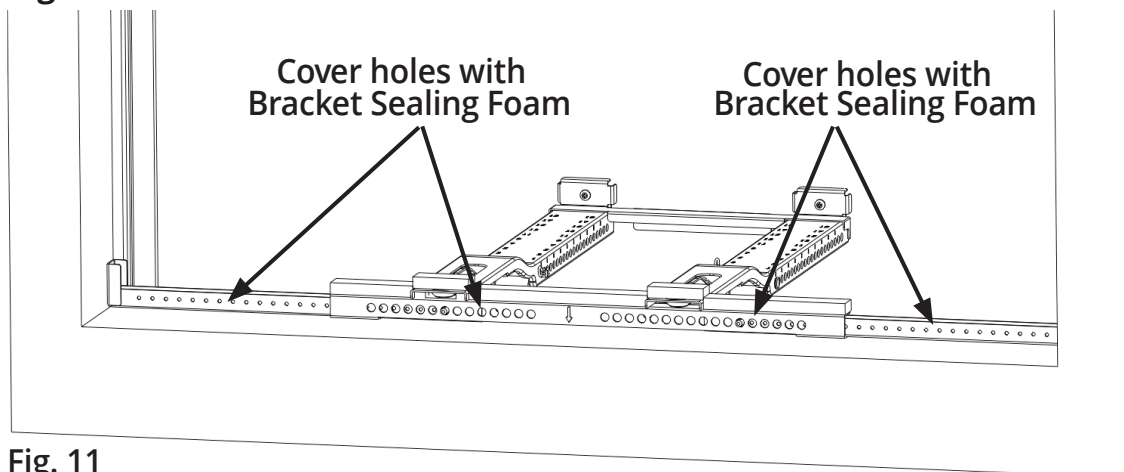

Fig. 11
E. If necessary, cover the holes on the front of the bracket with the **Bracket Sealing Foam**, as shown in **Fig. 11**.